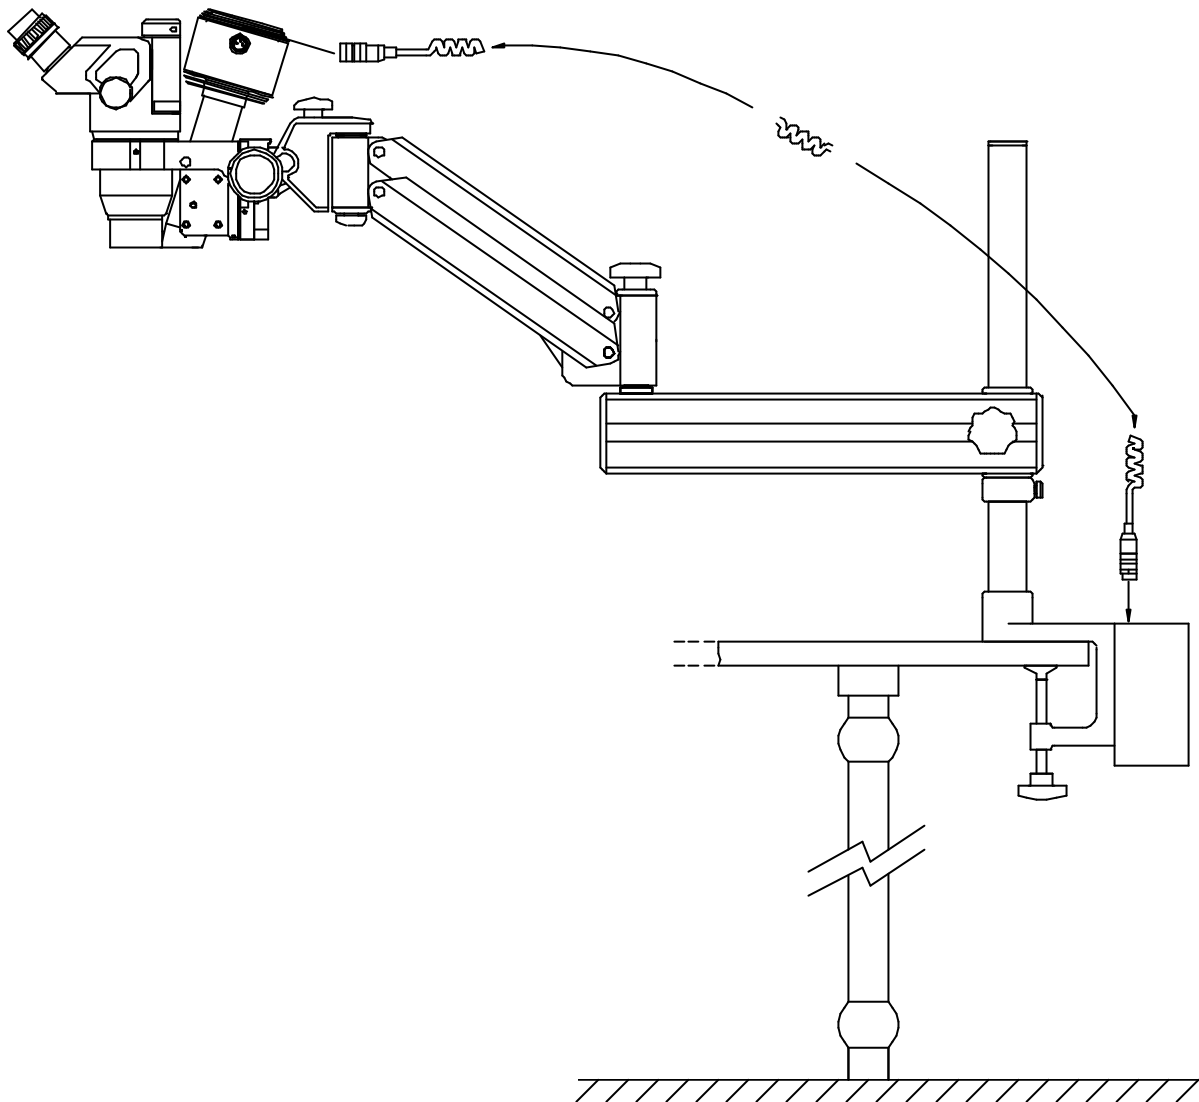

Figure 6 Connecting the lamphouse cable
7. Attach the female socket on the lamphouse cable to the connector on the side of the lamphouse. Pass the lamphouse cable through the clips on the arm assembly and plug into the power supply. This will ensure the cable does not obstruct the surgeon or come into contact with the sterile area (see figure 6).